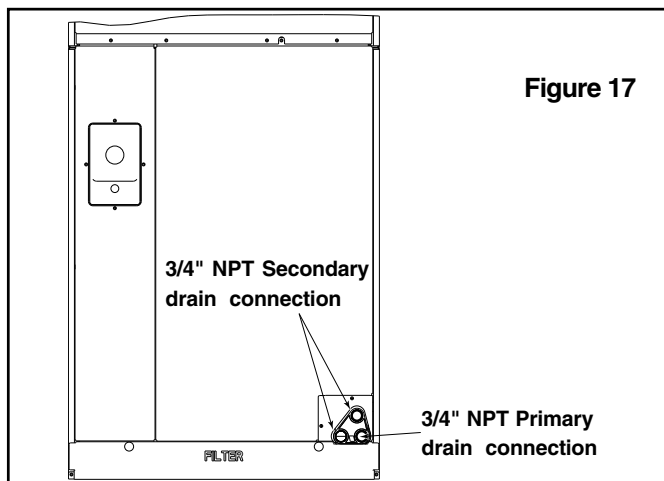
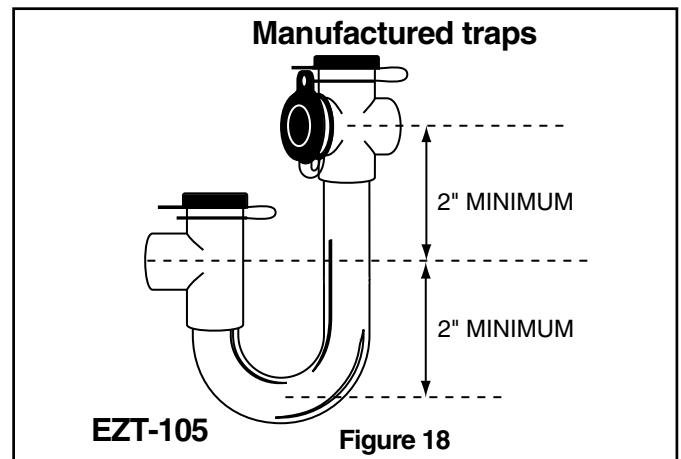

Figure 17
Figure 18
The indoor blower is downstream of the evaporator coil which creates a negative pressure at the condensate drain connections during operation. The condensate drain connections in front of the indoor coil are 3/4" NPT. The lower connection is the primary drain. See Figure 17.
Two secondary drain connections are provided for the different orientations (See Figure 17). The lower of the two should be connected as a backup to prevent condensate overflow by a blocked primary drain.
1. The primary drain line must be trapped with a minimum of 2" water seal as shown in Figures 17 & 18. **Do not use preformed 3/4" PVC running traps.** The use of Field fabricated or manufactured traps as shown in Figures 18 & 19 is acceptable. The manufactured trap shown in Figure 18 allows for a float switch option to be added. Refer to the manufacturers data and instructions for details.
3. It is recommended that a clean-out tee or cross be installed in the primary drain line for future maintenance (See Figure 18 & 19).